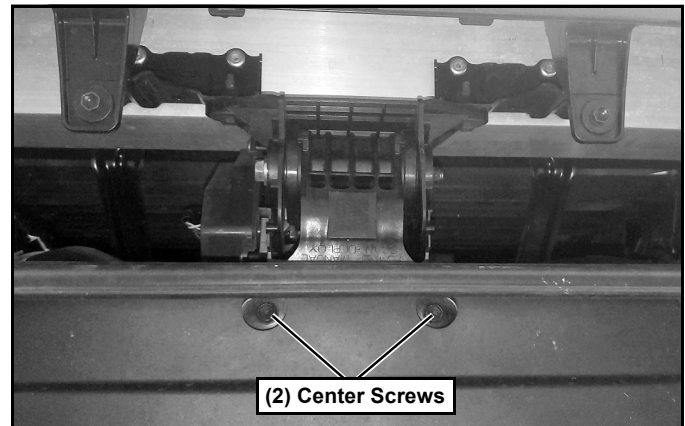

Figure 2
2. Remove the (2) center screws from the front of the spoiler and let the spoiler rotate down. (See Figure 2.)